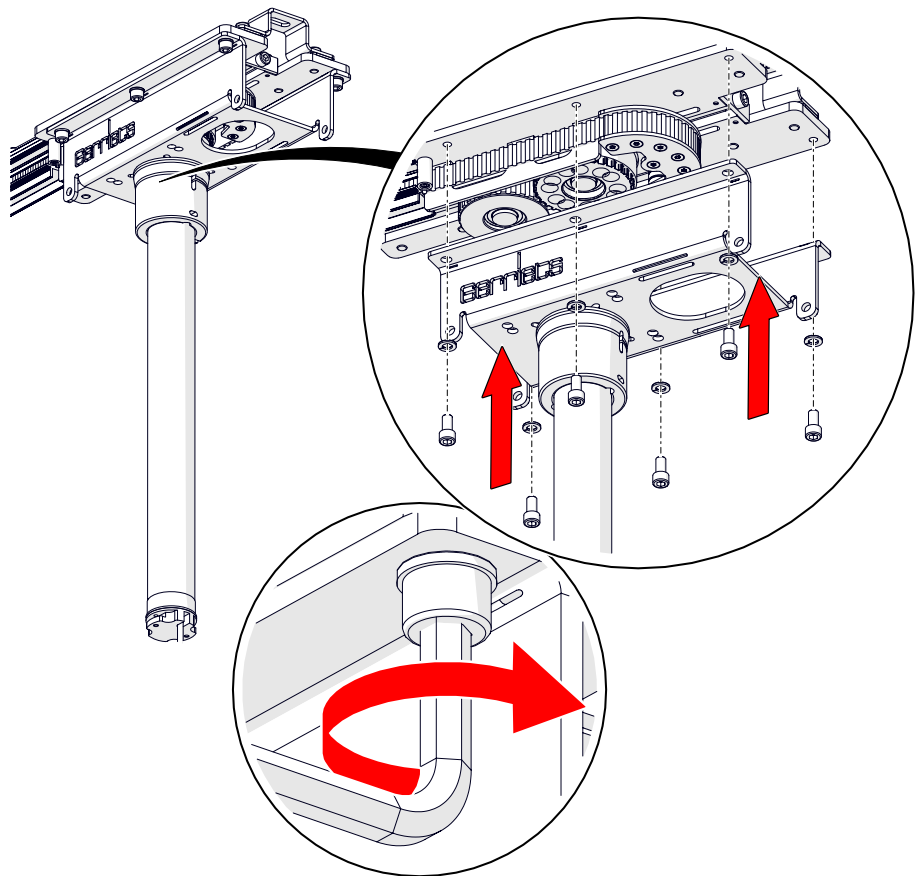

Fig. 88: Fitting motorisation
- Lift the motor according to its weight to the motor unit on the track system using a lifting device or lifting platform and tighten the six socket head cap screws with an Allen key AF 8 (see Fig. 88).